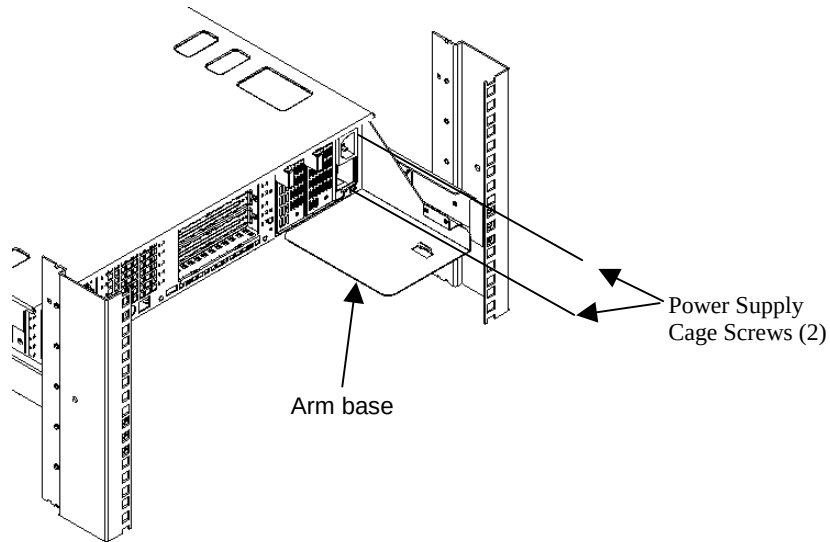

Figure 2-14. Attaching the Arm Base
1. Attach the Arm Base to the rear of the power supply cage using the two screws that secure the power supply cage to the chassis. See Figure 2-14.